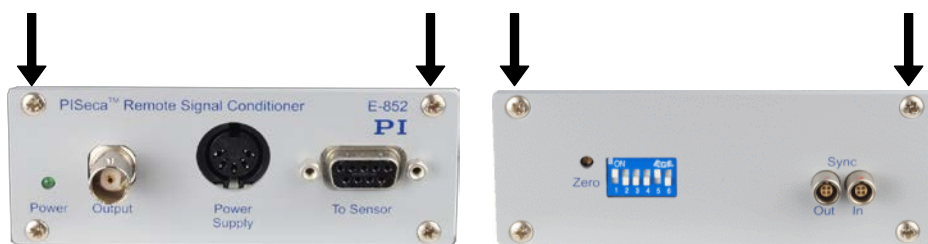

Fig. 13: E852B0021 front and rear panel with attaching screws indicated
2. On the front and rear panel, remove the 4 screws that attach the cover to the case (see Fig. 13). Remove the cover of the E852B0021.